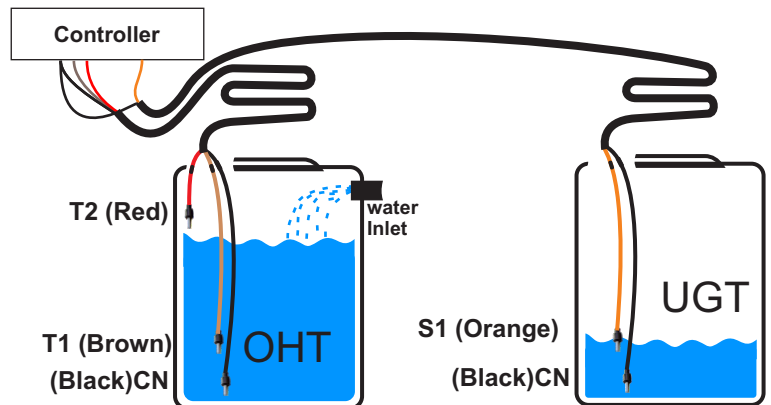

Figure3: contact type sensor connection
Step 5: Lay 4 core cable between controller and tank. Join one end of the 4 core cable to sensor line of the controller as per colour coding. In tank side, **Contact type sensor connection:** Take the sensors and cut them according to the levels of tank and join them with the 4 core cable as per label coded. (Refer figure 3).